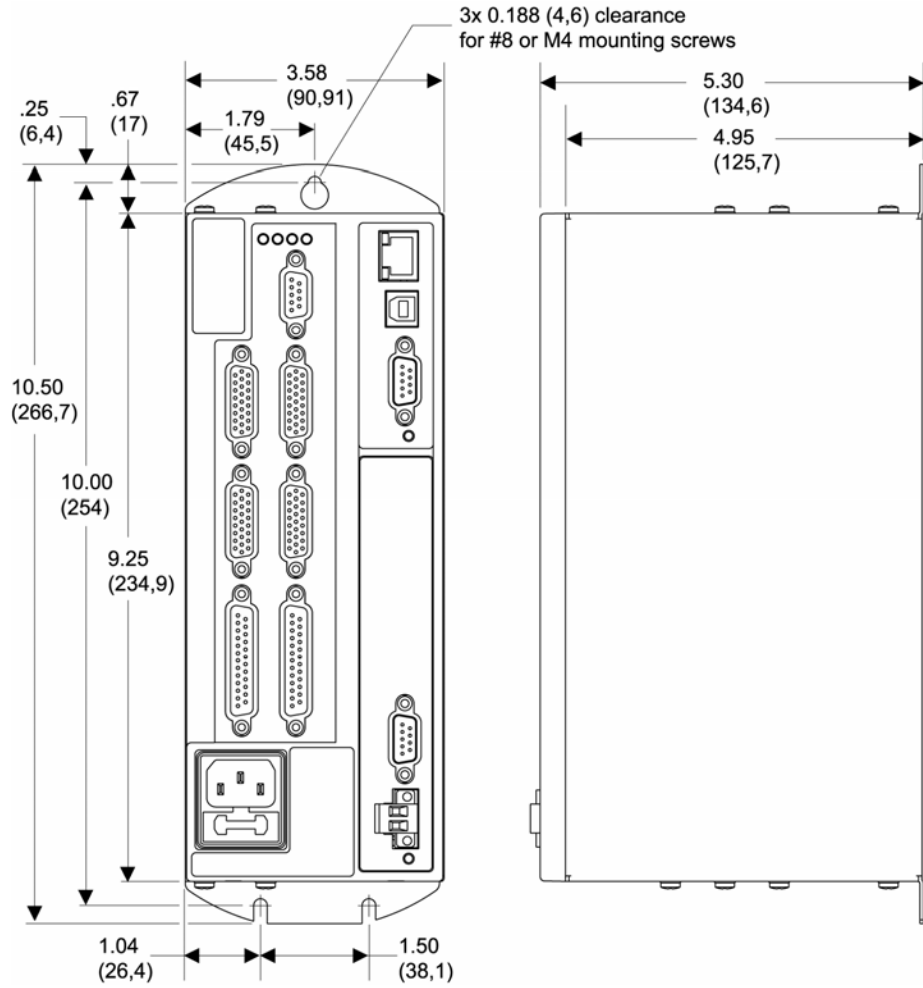
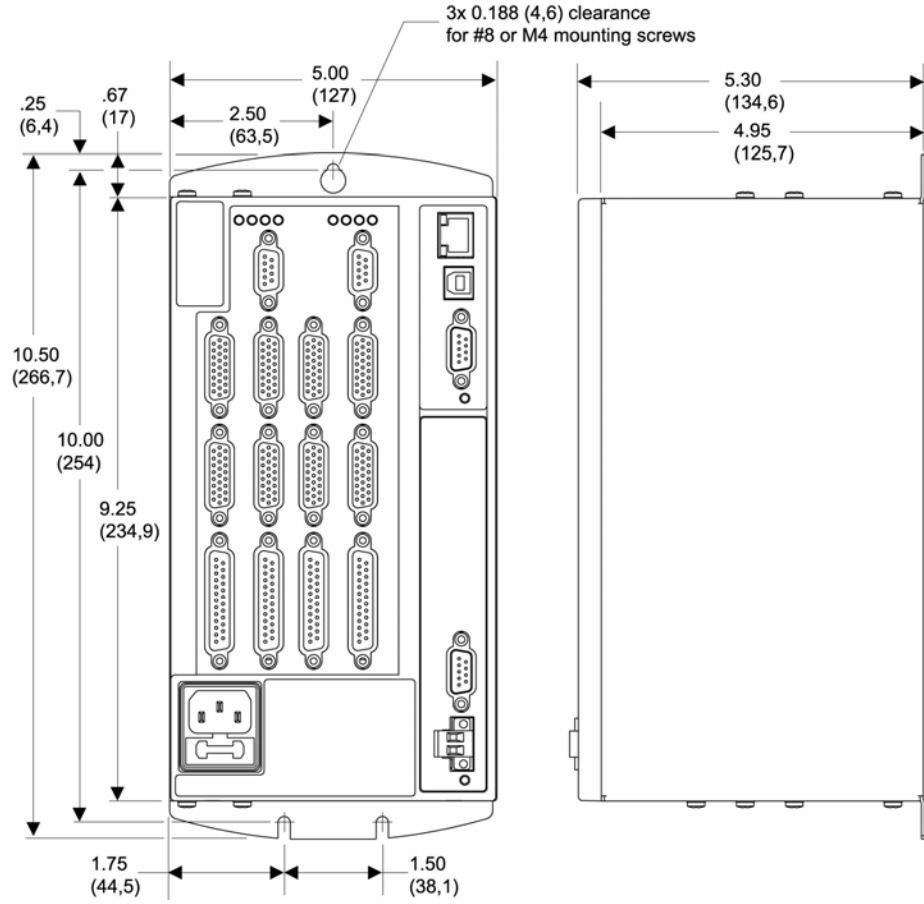
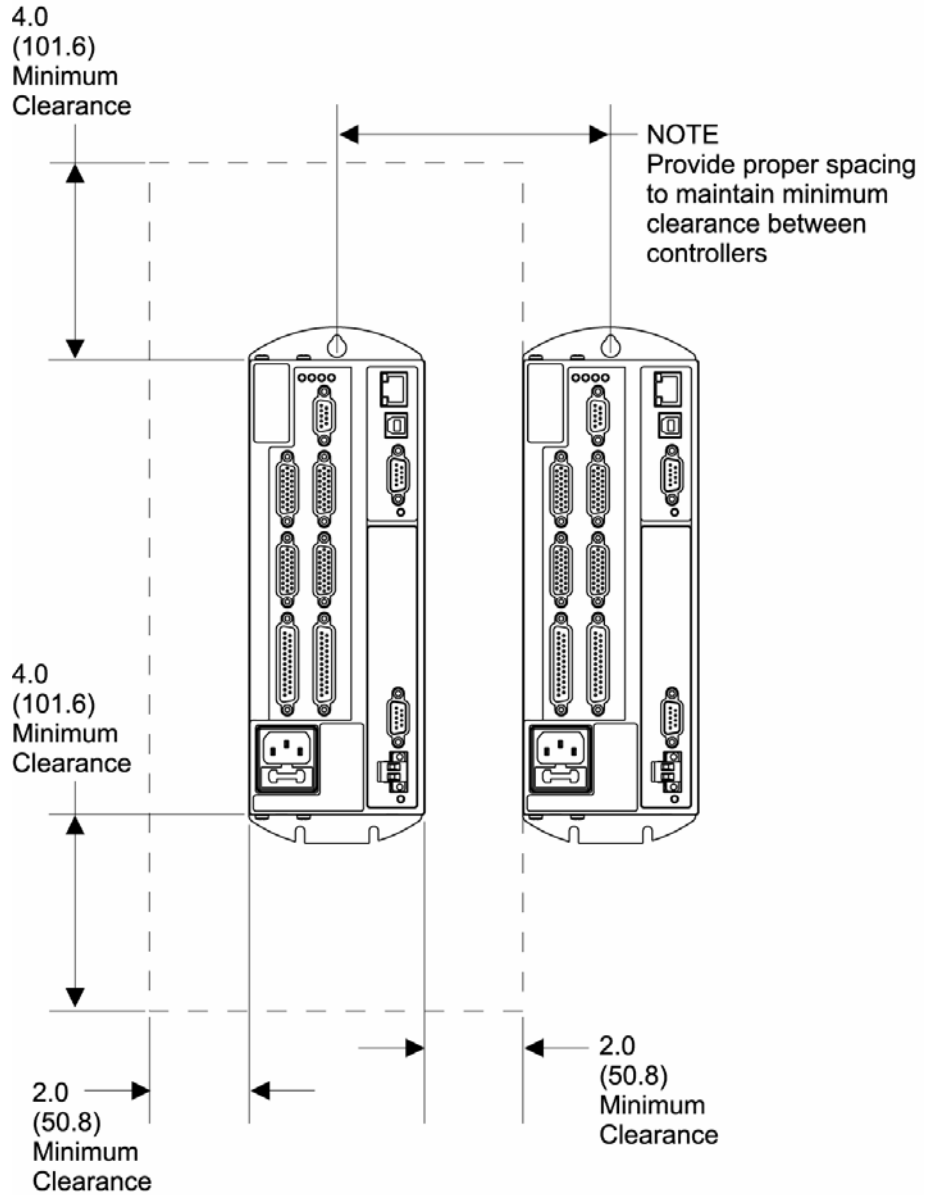
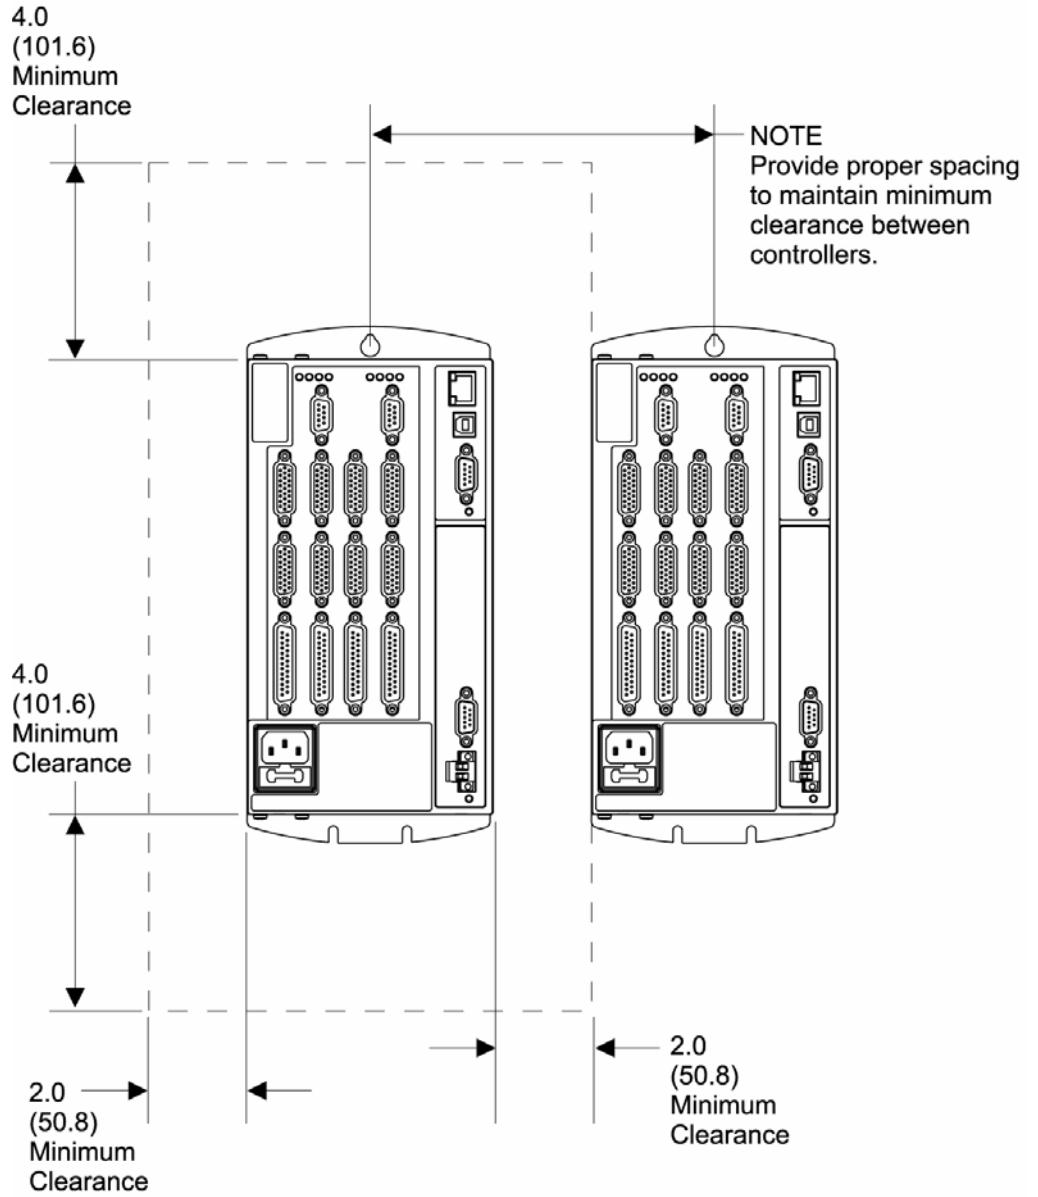

Figure 22 Mounting Specifications for ACR9000 and ACR9030 2/4 Axis Configuration
Figure 23 Mounting Specifications for ACR9000 and ACR9030 6/8 Axis Configuration
Figure 24 Mounting Clearance for ACR9000 and ACR9030 2/4 Axis Configuration
Figure 25 Mounting Clearance for ACR9000 and ACR9030 6/8 Axis Configuration
Mount the ACR90x0 Stand-Alone Controller before making any electrical connections or applying power. The figures on the following pages illustrate mounting specifications for the 2/4 Axis Configuration and the 6/8 Axis Configuration of the controller. Figure 22 and Figure 23 on pages 65 and 66 provide the measurements. Figure 24 and Figure 25 on pages 67 and 68 show the clearance requirements. Use the following guidelines for mounting the controller.
- Mount it on an **unpainted metal surface** (preferably zinc-plated), using three No. 8 or M4 mounting screws. For mounting measurements, see Figure 22 on page 65 and Figure 23 on page 66.
- For proper cooling, mount the controller vertically and with required clearance. (See Table 4 on page 22 for cooling requirements. Figure 24 and Figure 25 on pages 67 and 68 illustrate mounting clearance requirements.)